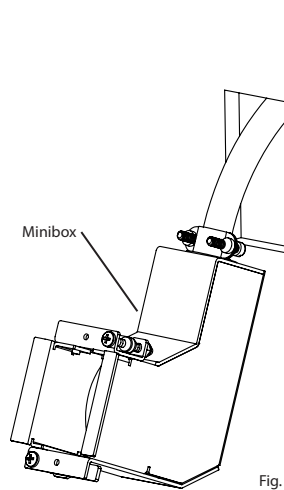

Fig. 3
13. Feed the Minibox into the wall opening at a slight angle (Fig. 3) until the side tabs are pressed against the mounting surface (Fig. 3).